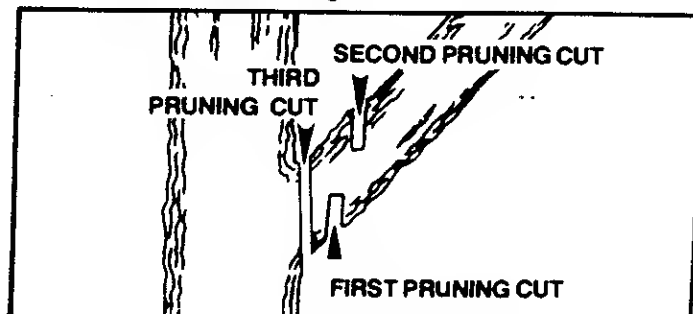

Figure 29
- b. **Refer to Figure 29 for the pruning technique.**